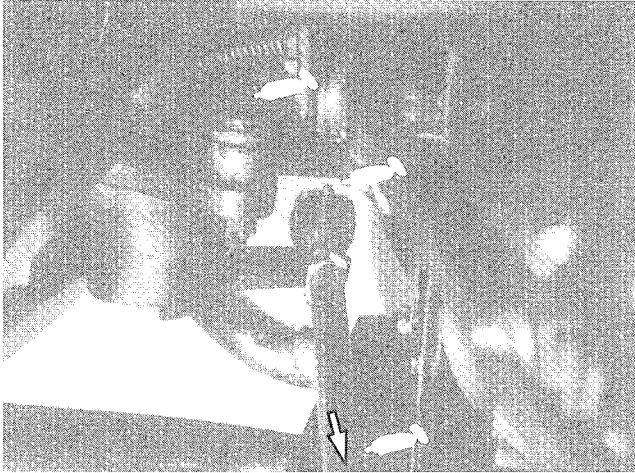
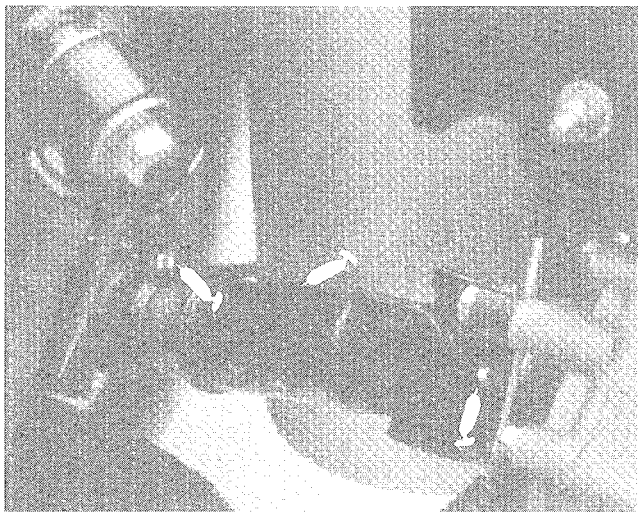
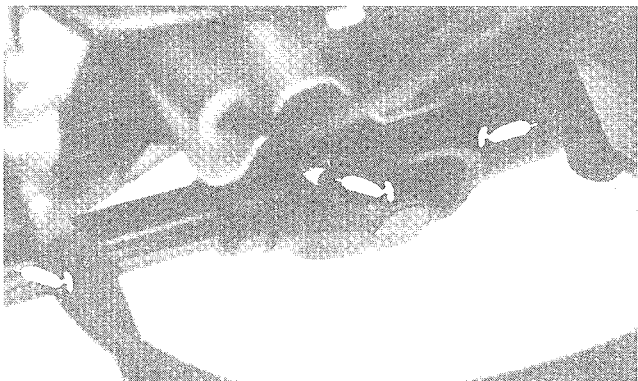

Figure 25
Figure 26
Figure 27
(Fig. 25–30)
The grease fitting locations and quantities are: Tie rod ends (4) (Fig. 25), Front ball joints (4) (Fig. 25), Rear drive shafts (18) (Fig. 26), Mid drive shaft (3) (Fig. 27) Steering shaft (1) (Fig. 28), Front pivot bushings (2) (Fig. 29) and Governor Lever (1) (Fig. 30).